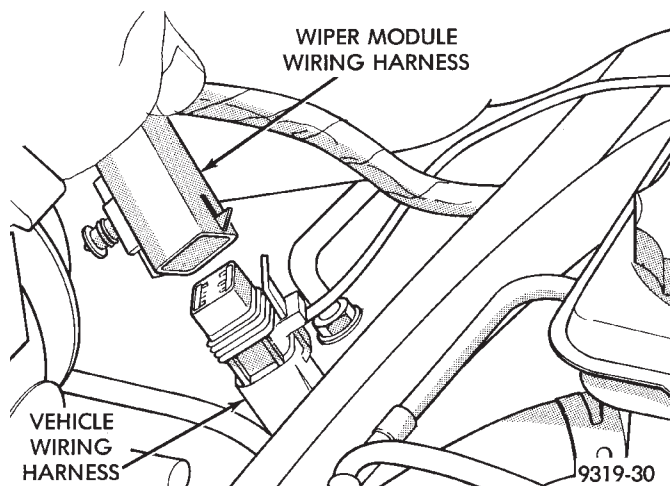

Fig. 5 Wiper Module Wiring Harness Connector
(9) Disconnect wiper module wiring harness connector, from vehicle wiring harness (Fig. 5).